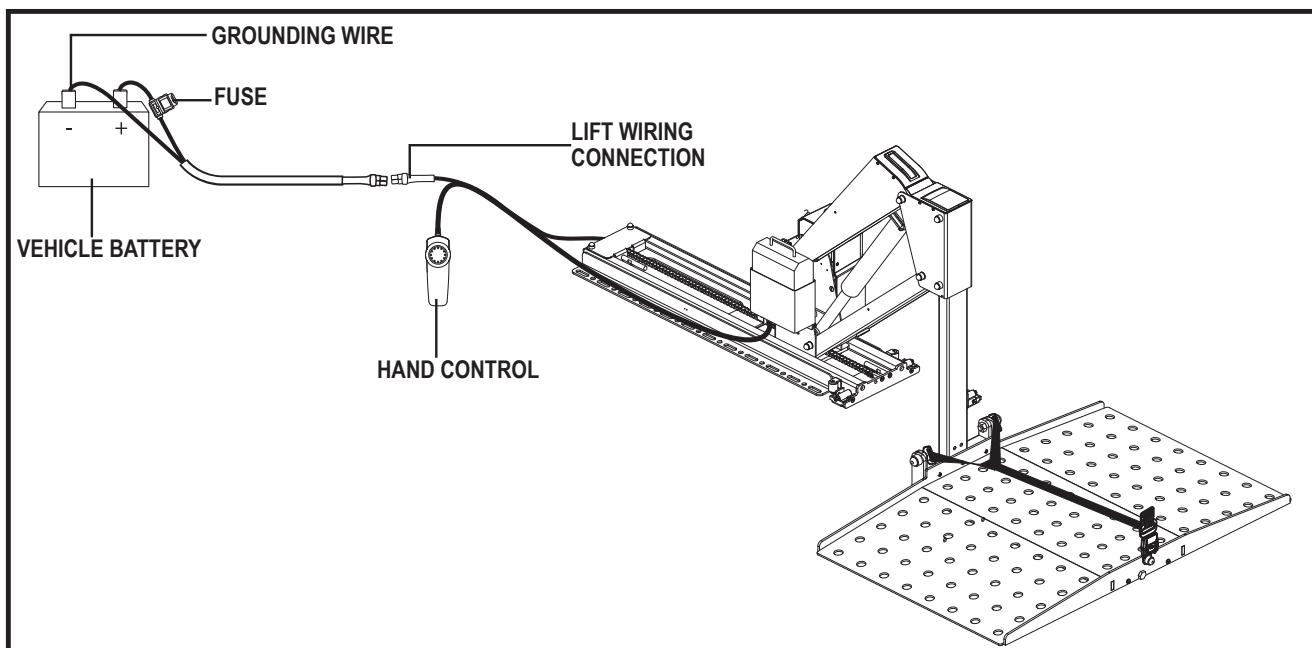

Figure 3. Wiring Harness Installation - Backpacker Plus
1. Route the lift system wiring harness (starting at the lift) through the interior of the vehicle. **See figure 3.**
4. Remove the 15-amp fuse from the wiring harness. **See figure 3.**